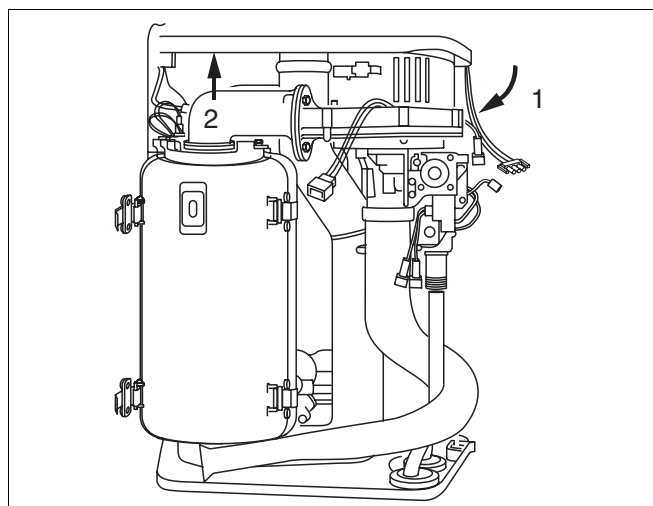

Fig. 79 Replacing the gas burner fitting on the 600 Series:
- Swivel the "CombiVENT" gas combination unit forward (fig. 79, item 1)
- Remove the "CombiVENT" gas combination unit from its bayonet connector and pull upwards to detach (fig. 79, item 2).